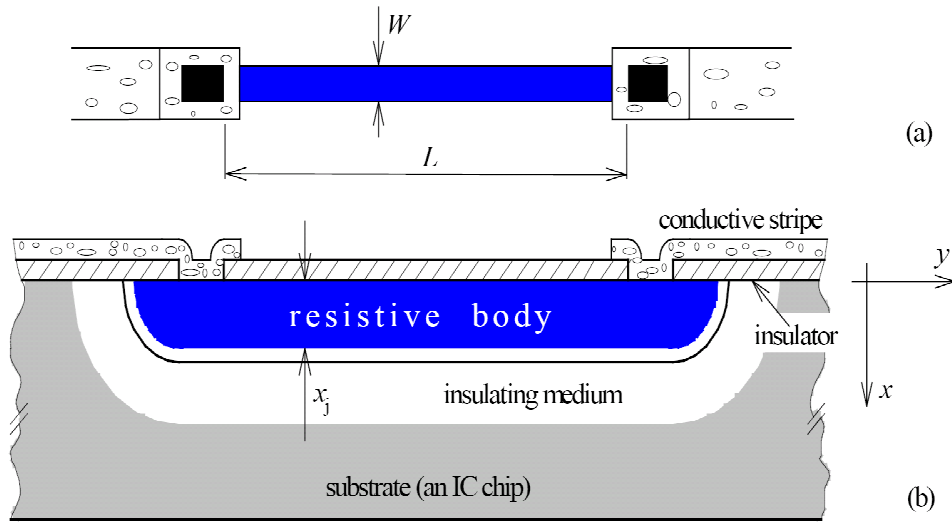

Figure 1: Textbook figure 1.2.
- Integrated Circuit Resistor (fig. 1)